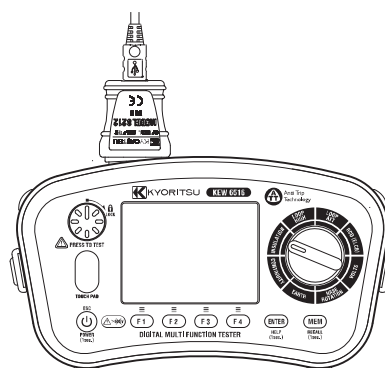

Fig.17-2
- (1) Connect Model 8212USB to the USB Port of a PC. (Special driver for Model 8212USB should be installed. See the instruction manual for Model 8212USB for further details.)
- (2) Insert Model 8212USB into the KEW 6516/6516BT as shown in Fig 17-2. Test leads should be removed from the KEW 6516/ 6516BT at this time.
- (3) Power on the KEW 6516/ 6516BT. (Any function is OK.)
- (4) Start special software "KEW Report" on your PC and set the communication port. Then click "Download" command, and the data in the KEW 6516/ 6516BT will be transferred to your PC. Please refer to the instruction manual of Model 8212USB and HELP of KEW Report for further details.